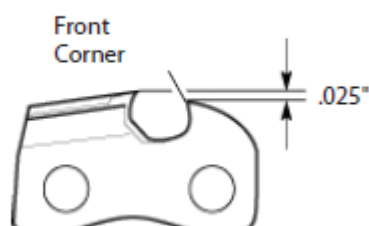

Fig.18
3. Remove depth gauge tool. With flat file, round off front corner of cutter depth gauge (see **Fig.18**).